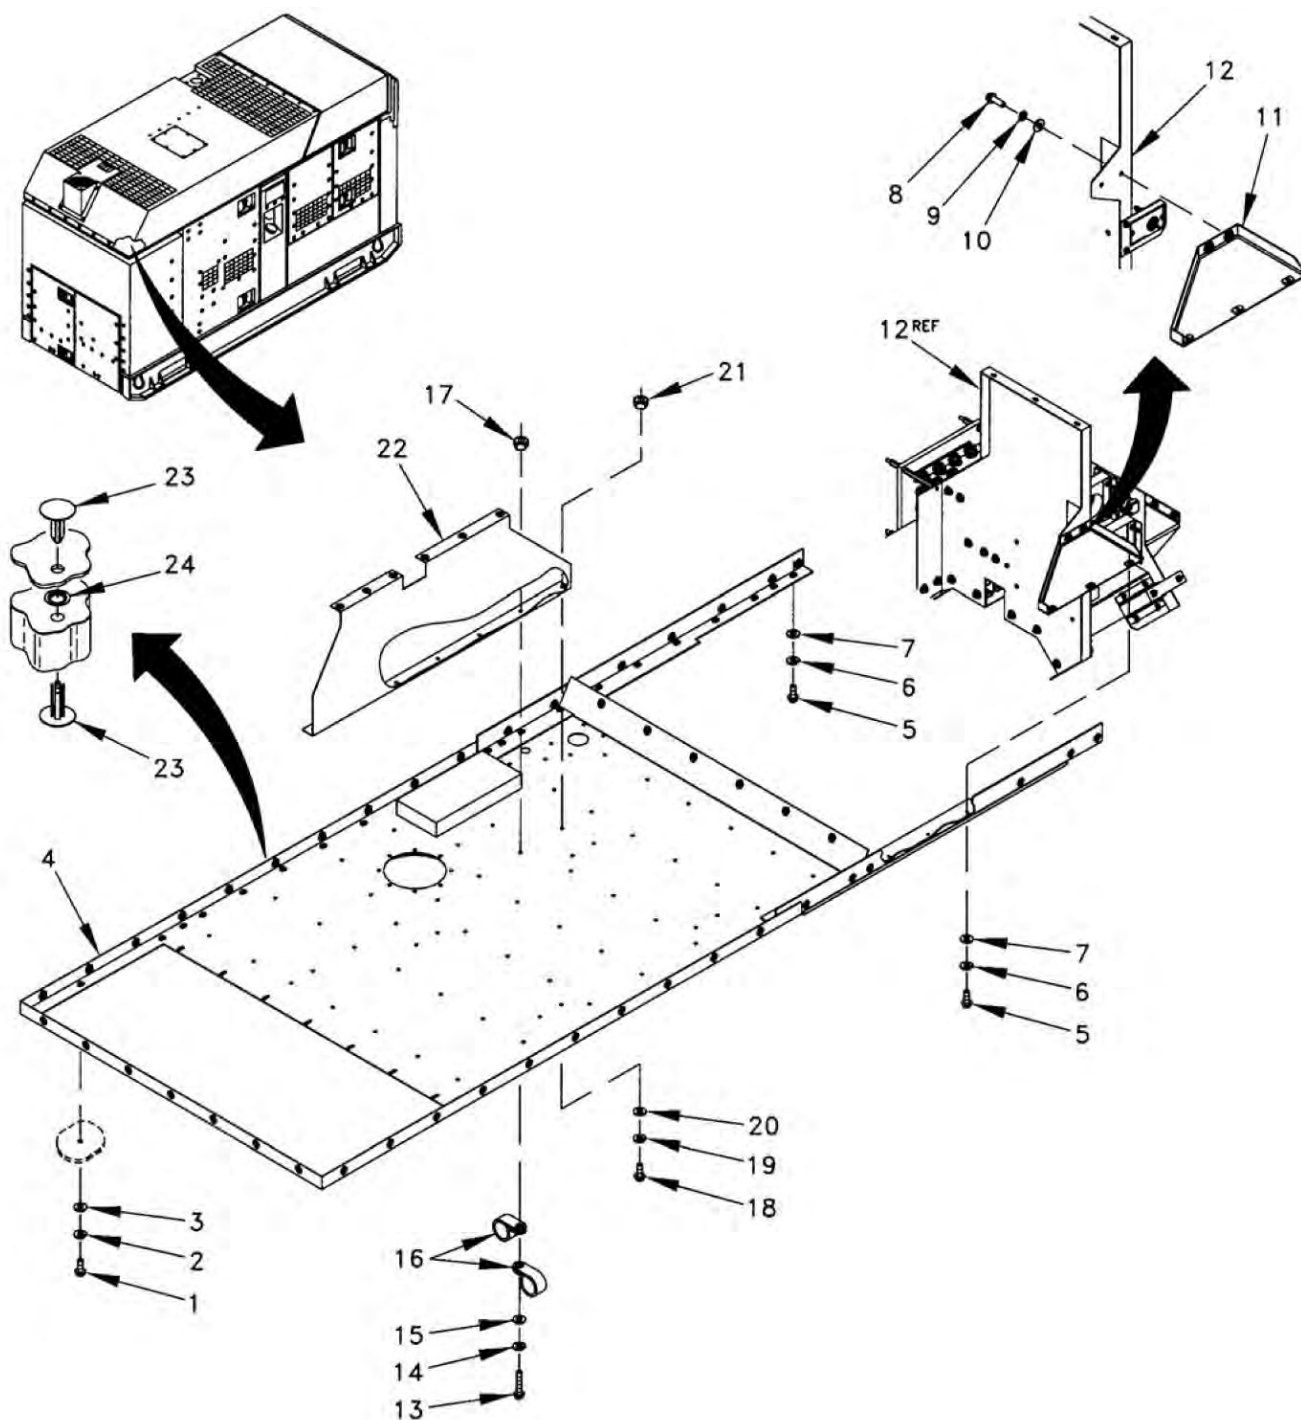

Figure 1. Engine Generator Compartment Ceiling Assembly.
1. Remove seven screws (Figure 1, Item 1), lock washers (Figure 1, Item 2), and washers (Figure 1, Item 3).
2. Remove 46 screws (Figure 1, Item 5), lock washers (Figure 1, Item 6), and washers (Figure 1, Item 7) from engine compartment ceiling assembly (Figure 1, Item 4) (23 sets on each side).
3. Remove two screws (Figure 1, Item 8), lock washers (Figure 1, Item 9), and washers (Figure 1, Item 10) securing bracket (Figure 1, Item 11) to air cleaner bracket (Figure 1, Item 12).
4. Remove two screws (Figure 1, Item 13), lock washers (Figure 1, Item 14), washers (Figure 1, Item 15), nuts (Figure 1, Item 17) and four clamps (Figure 1, Item 16) with hoses from second and fifth holes from end of generator set.
5. Remove engine generator compartment ceiling assembly (Figure 1, Item 4).
1. Remove five screws (Figure 1, Item 18), lock washers (Figure 1, Item 19), washers (Figure 1, Item 20), nuts (Figure 1, Item 21) and bracket (Figure 1, Item 22).
2. If necessary, remove 86 clips (Figure 1, Item 23), 43 push-on nuts (Figure 1, Item 24) and remove foam damping section.
1. If necessary, use old foam damping section as template to cut new foam damping section. Install foam damping section, 43 push-on nuts (Figure 1, Item 24), and 86 clips (Figure 1, Item 23).
2. Install bracket (Figure 1, Item 22) using five screws (Figure 1, Item 18), lock washers (Figure 1, Item 19), washers (Figure 1, Item 20), and nuts (Figure 1, Item 21).
1. Install engine generator compartment ceiling assembly (Figure 1, Item 4).
2. Install four clamps (Figure 1, Item 16) securing two hoses to the engine generator compartment ceiling assembly (Figure 1, Item 4) using two screws (Figure 1, Item 13), lock washers (Figure 1, Item 14), washers (Figure 1, Item 15), and nuts (Figure 1, Item 17).
3. Install bracket (Figure 1, Item 11) to air cleaner bracket (Figure 1, Item 12) using two screws (Figure 1, Item 8), lock washers (Figure 1, Item 9), and washers (Figure 1, Item 10).
4. Install engine compartment ceiling assembly (Figure 1, Item 4) using 46 screws (Figure 1, Item 5), lock washers (Figure 1, Item 6), and washers (Figure 1, Item 7) from (23 sets on each side).
5. Install seven screws (Figure 1, Item 1), lock washers (Figure 1, Item 2), and washers (Figure 1, Item 3).